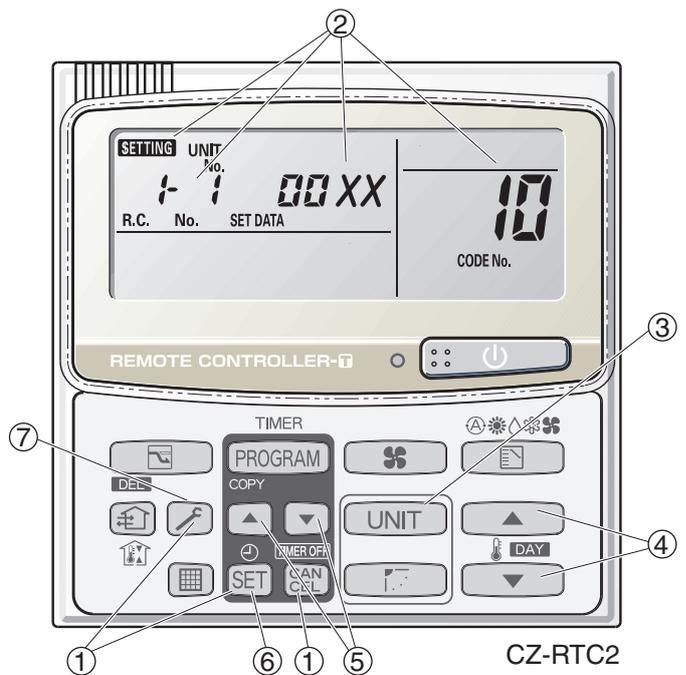

Fig. 7-2
- ① Press and hold the , **SET** and **CAN CXL** buttons simultaneously for 4 seconds or longer.
- ② "**SETTING**," unit No. "**1-1**" (or "**ALL**" in the case of group control), item code "**10**," and settings data "**00XX**" are displayed blinking on the remote controller LCD display (Fig. 7-2).